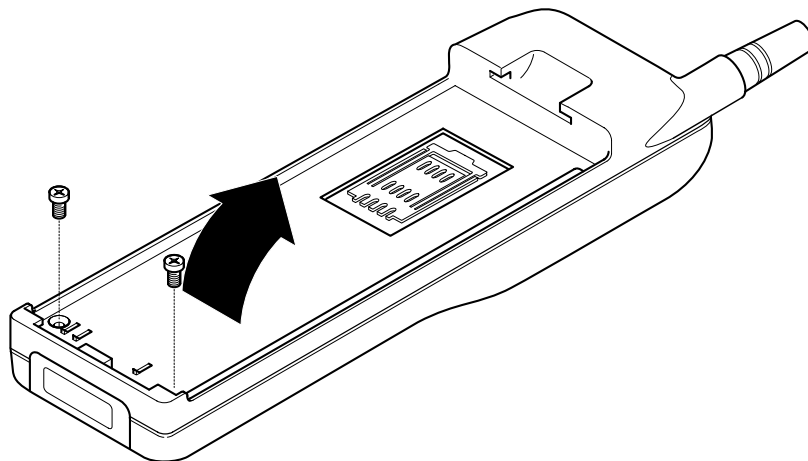

Figure 2: Case disassembly
2. Figure 2 Remove the back cover of the telephone case 2 screws